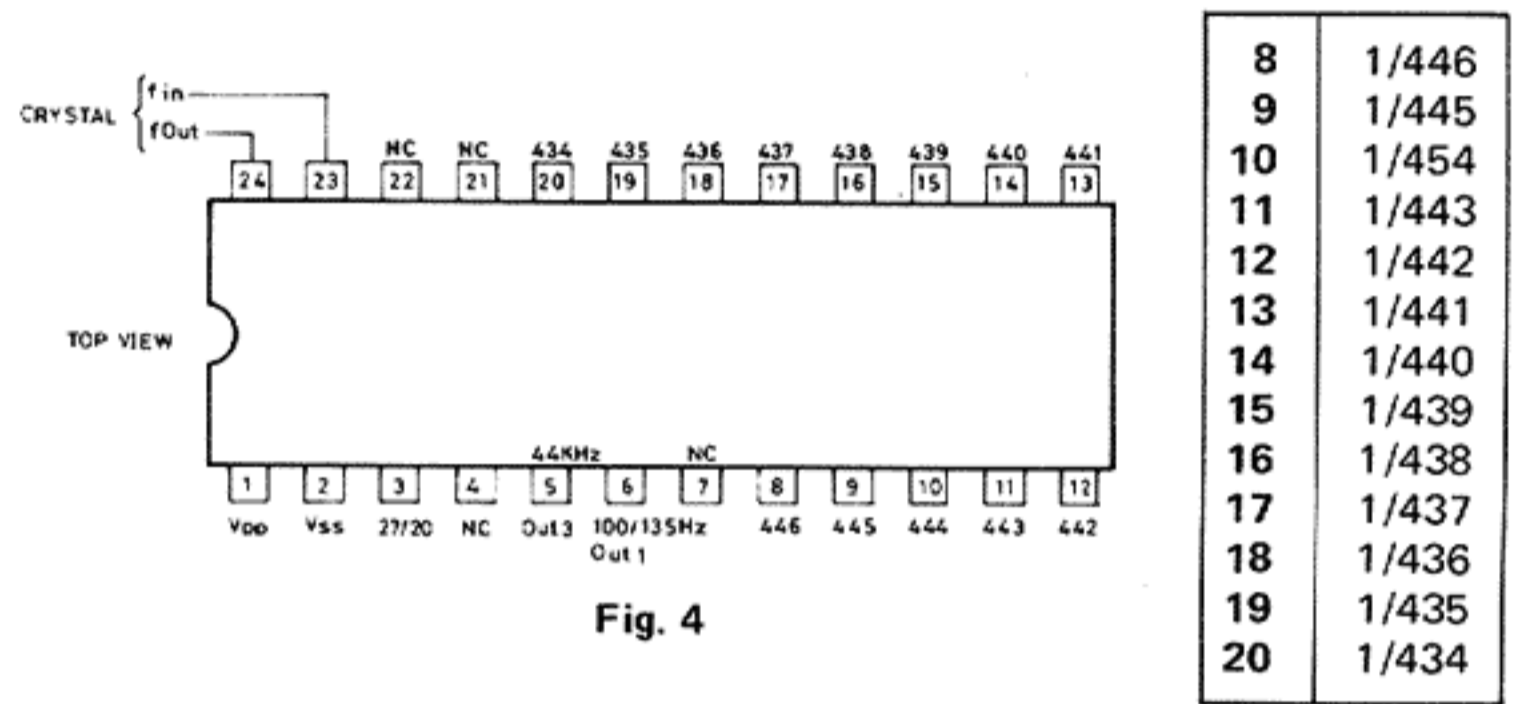

Fig. 4
The pin-connections are shown in Figure 4.
- a. This section encodes and decodes the $\pm 6\text{Hz}$ adjustment, which results in a maximum $\pm 6\text{Hz}$ deviation from the basic $1/440$ demultiplication of a pulse input to permit indication by the indicator lamp. Push buttons are provided to cause two pulse generation circuits to generate SLOW and FAST pulses. Figure 4 shows the SLOW pulse generation circuit in which the output of IC805, consisting of two NAND circuits is latched to the first input pulse, thus holding it stable to succeeding noise generated by push-operation. Depression of the button yields an increment of deviation and releasing it enables the deviation to be set at that level. In addition, another pair of NAND circuits in IC804 receives a -6Hz clamp signal input from Pin (1) of M53354 to prevent pulse inputs also created by the push-button switch operation from producing outputs causing the deviation to proceed beyond -6Hz .